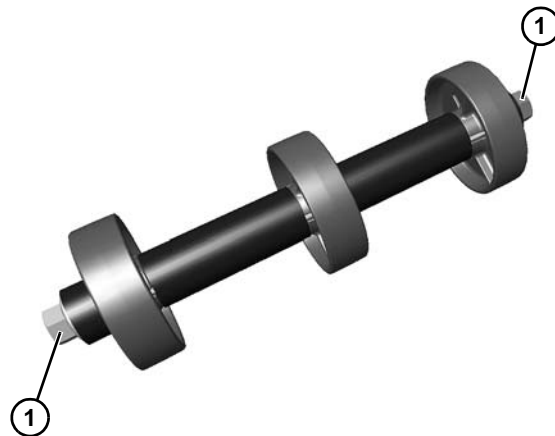

Figure 96
12. Use wrenches to remove both bolts (**Figure 96, item 1**) from each side of roller assembly.